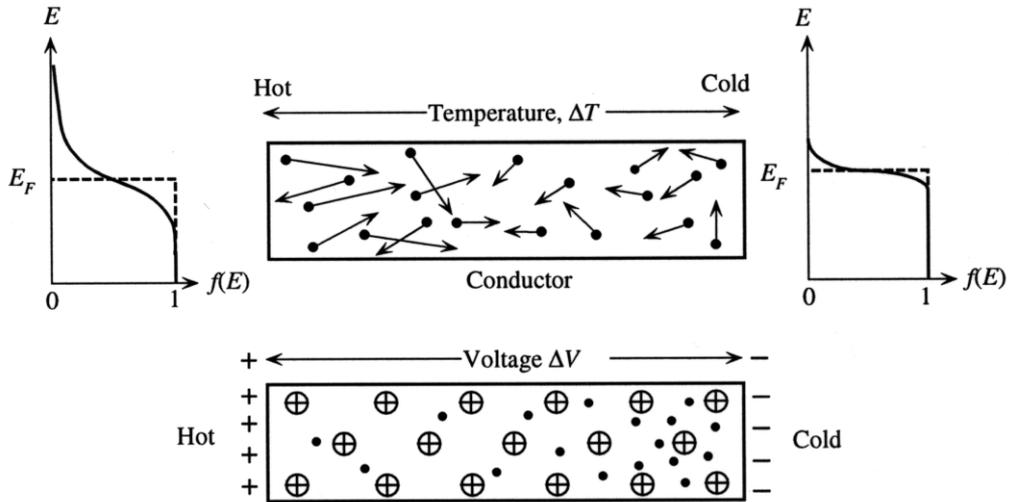

Fig. 2: The Seebeck effect. A temperature gradient  $\Delta T$  along a conductor gives rise to a potential difference  $\Delta V$ .
**Principle:** A temperature difference  $\Delta T$  between the extremities of a conductor (Fig. 2) leads to a difference of electric potential  $\Delta V$  :